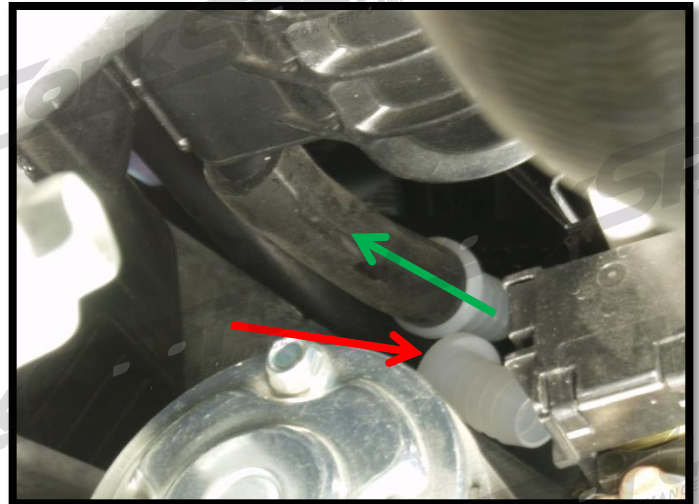

Figure 3d
- d) Fit the smaller supplied hose with a barbed reducer onto the intake manifold (green arrow in Figure 3d).
- e) Place the other supplied barbed reducer into the factory PCV hose (red arrow in Figure 3d).
- g) Route the hose over the transmission and behind the wiring harness (as shown in Figure 3d).
d) Fit the smaller 4" 10mm supplied hose with a barbed reducer onto the intake manifold (green arrow in Figure 3d). Reducers shown in white color for easier viewing.
e) Place the other supplied barbed reducer into the factory PCV hose (red arrow in Figure 3d). Reducers shown in white color for easier viewing.